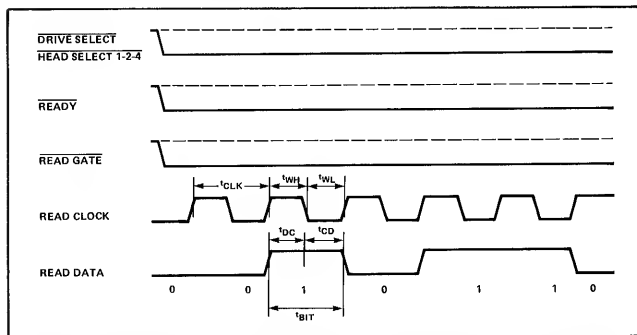

Figure 3-37. READ DATA and READ CLOCK Timing
6. **READ DATA and READ CLOCK Timing** READ DATA and READ CLOCK timing is shown in Figure 3-37. The AC characteristics are listed in Table 3-13.